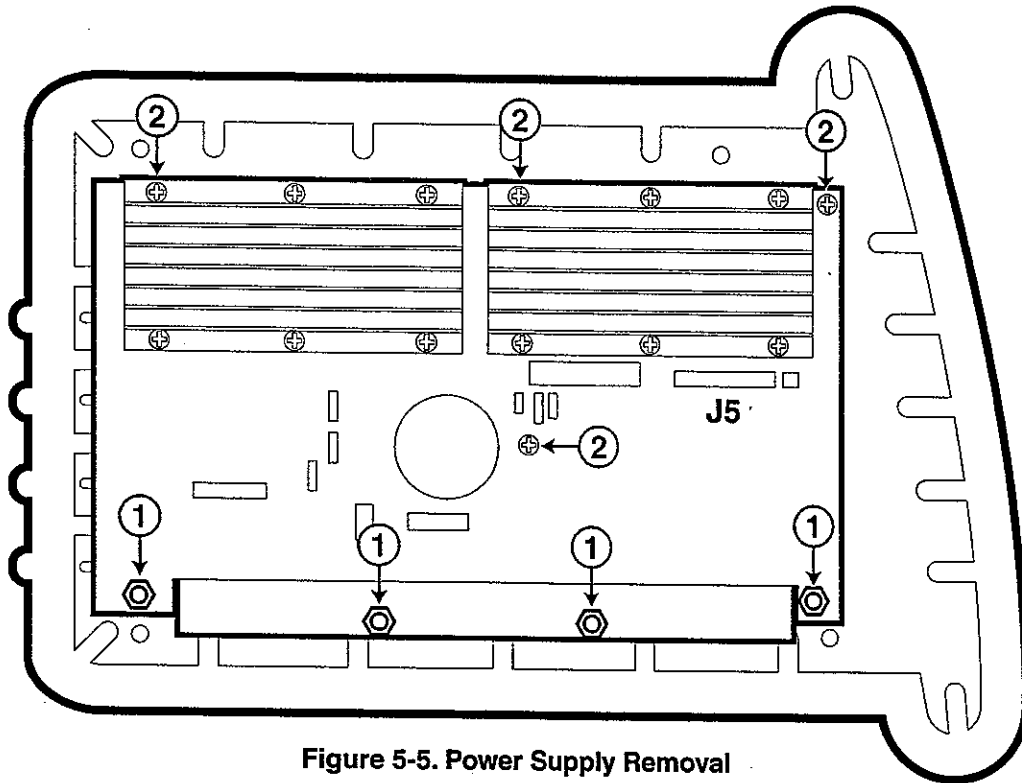

Figure 5-5. Power Supply Removal
- 3 Referring to Figure 5-5, remove the four (4) nuts (Figure 5-5, ref. 1) and four (4) screws (Figure 5-5, ref. 2) securing the Power Supply to the to the right side cover.